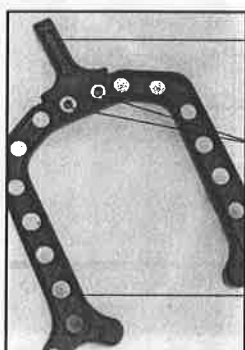

Fig. 24
1. Remove the 2 bolts with washers attaching the brake cable housing stop (BCHS) to the brake arch (Fig. 24).
5. Rotate the sliders so that they face forward and install the brake arch allen bolts (2) and both brake studs (2), **but do not tighten them yet.**